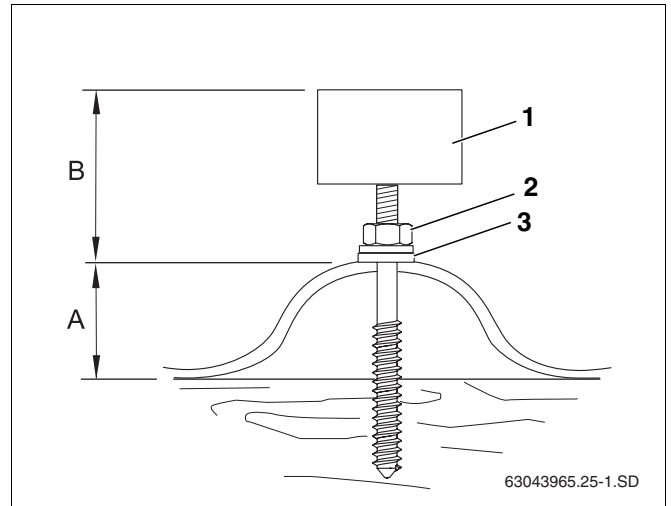

Fig. 24 Carriage bolt fitted to corrugated roof
When screwing in carriage bolts, ensure that the distance B (Fig. 24) is the same for all carriage bolts.
- ▶ Tighten the nuts (Fig. 24, **Item 2**) until the sealing disc (Fig. 24, **Item 3**) is lying completely flush on the roof.